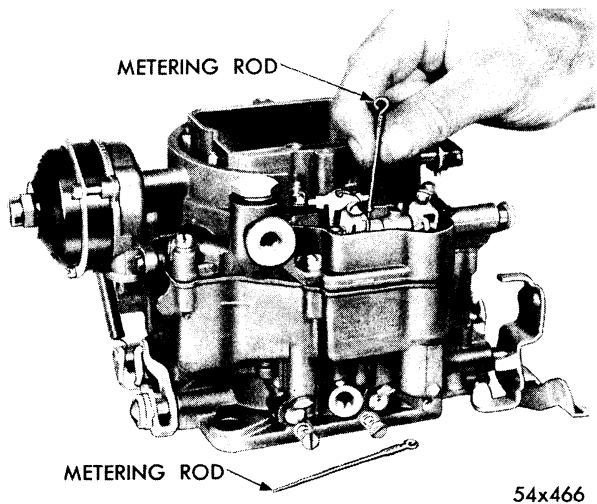

Fig. 8—Removing or Installing Metering Rods
- (4) Unhook the metering rods from the vacuum meter piston link and remove, as shown in Figure 8.
- (5) Of the sixteen bowl cover attaching screws and lockwashers, six of these are found around the inside air horn, nine around the flange of the bowl cover and one within the metering rod and pump countershaft enclosure.